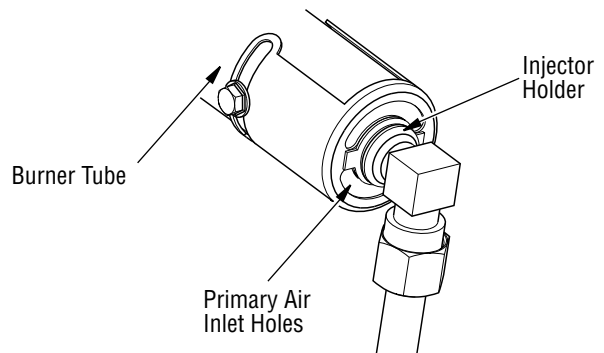

Figure 31 - Injector Holder On Outlet Burner Tube
2. Inspect burner, and primary air inlet holes on injector holder for dust and dirt (see *Figure 31*).